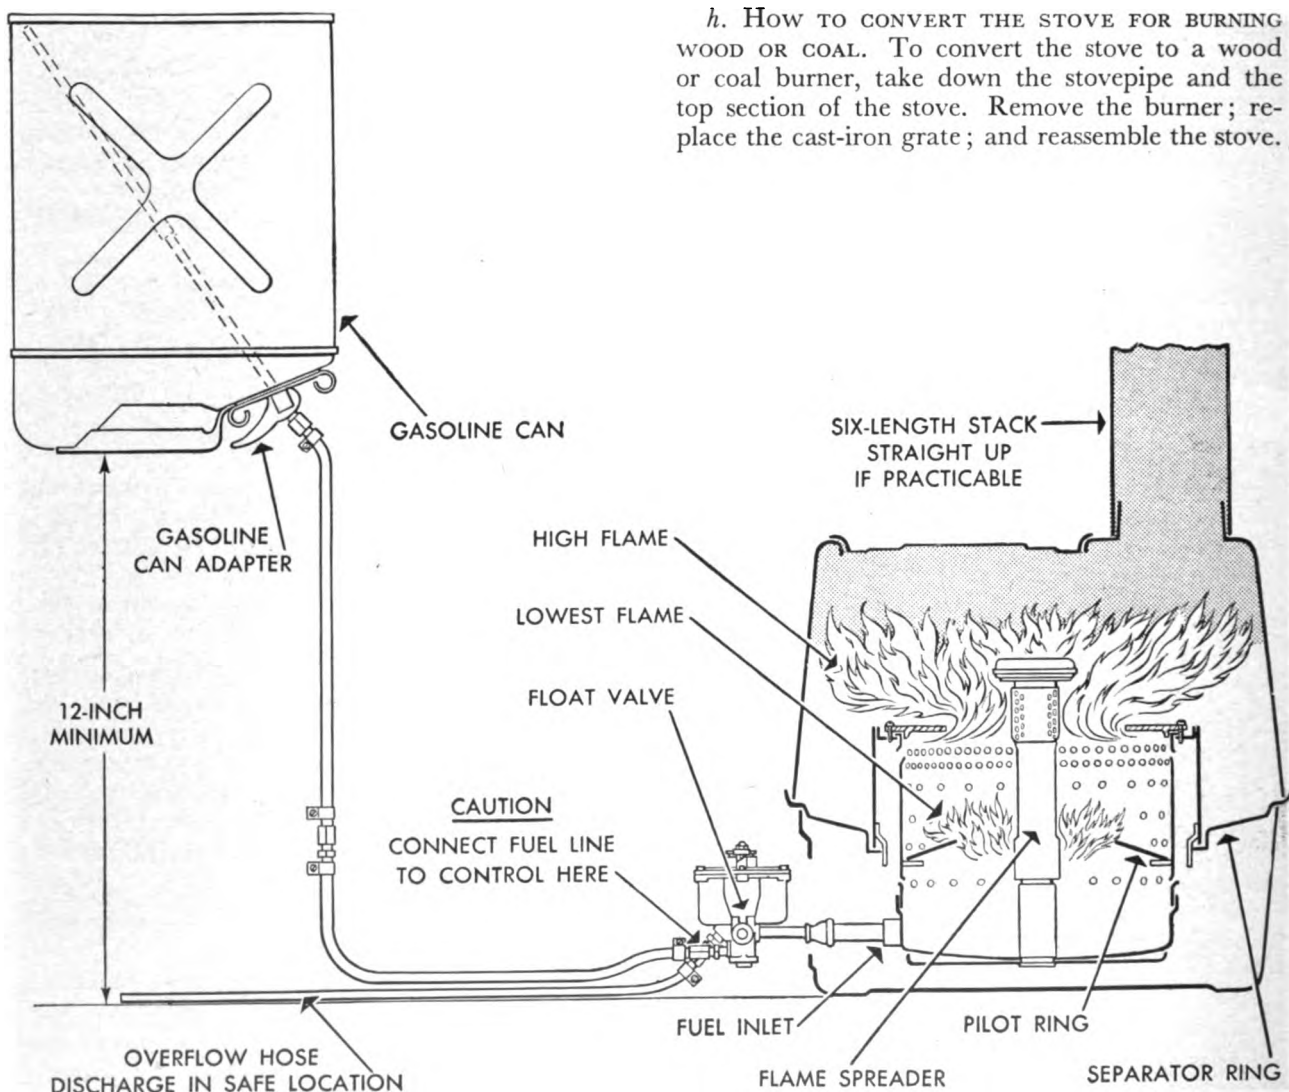

Figure 88. Burner, oil, stove, tent, M1941 (65-N-1375).
72. How to Assemble and Operate Oil Burner Outfit (stock No. 65-N-1375) (see fig. 88)